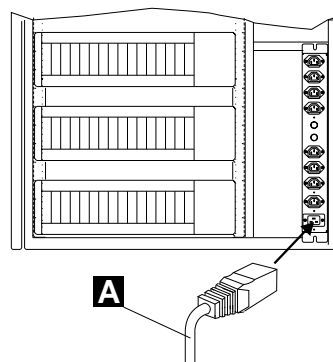

Figure 1-63. Power Cord for Power Strip
17. ____ If it is not already plugged, connect the main power cord **A** coming from the ac outlet distribution box to the **220V** customer's **receptacle** (refer to Figure 1-63).